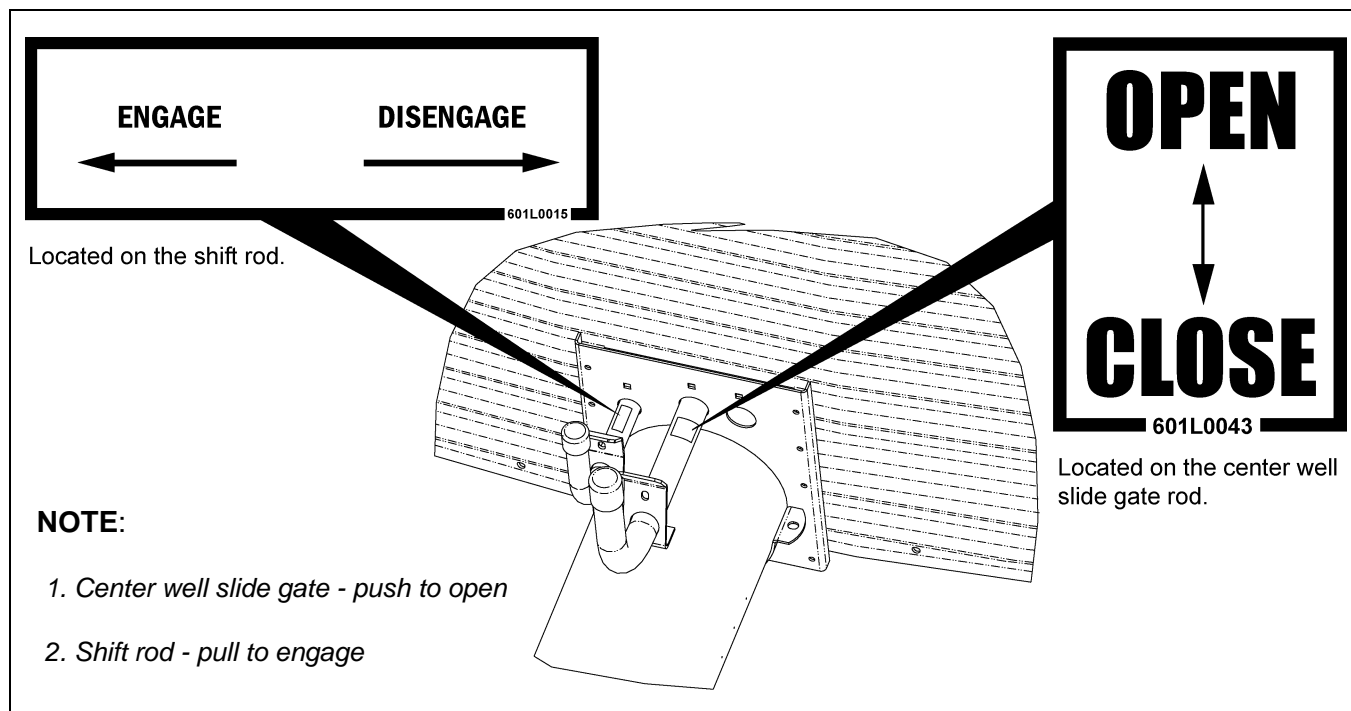

Figure 50
14. Place the latches onto the slide gate, intermediate sump (if used) and shift lever tubes. Then insert the tubes into the bin wall plate holes, through the support rings on the auger tube. Next, put the slide gate tube through the end of the sump and attach to the slide gate using two (2) 5/16" x 2" hex bolts and lock nuts. Connect the shift lever tube to the offset shift tube with the connecting sleeve using one 5/16" x 1-1/2" grade 5 bolt and lock nut. (See Figure 50, Figure 5P below and Figure 5Q on Page 24.)